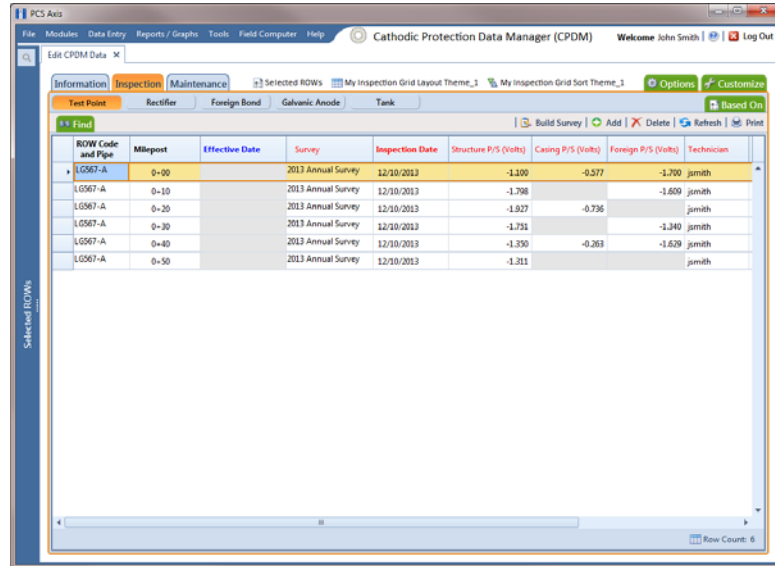

Figure 7-36. Test Point Inspection Grid
- 2 Open the *Edit <module> Data* window. For example, click **Data Entry** > **Edit CPDM Data** to open the *Edit CPDM Data* window (Figure 7-36, page 246).